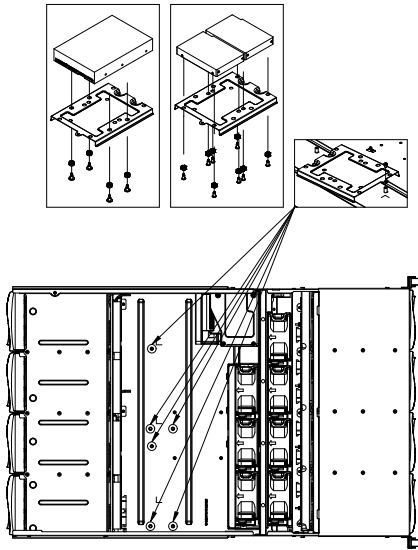

Figure 5-8. Installing Single and Dual Hard Drives and the Bracket
2. Secure the bracket using the screws provided as shown in Figure 5-8.